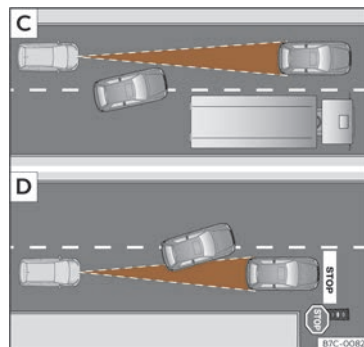

Fig. 133 **C** Vehicle changing lanes. **D** One vehicle turning and another stationary.
- Vehicles that move into your lane, a short distance from your vehicle >>> **Fig. 133 C**.
The ACC may not react to stationary vehicles. If, for example, a vehicle detected by the ACC turns or moves over and there is a stationary vehicle in front of it, the ACC will not react to the second vehicle >>> **Fig. 133 D**.